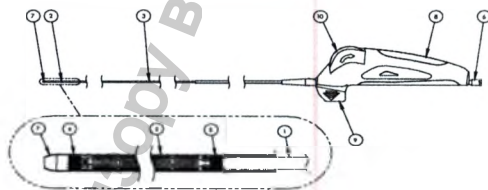

Figure 1: EverFlex Entrust™ Delivery System
The Entrust delivery system is shown in Figure 1. It has a triaxial shaft design comprised of an inner shaft (1), retractable outer sheath (2), and an isolation sheath (3) for ease of use during deployment. The ergonomic deployment handle (8) has a removable safety lock (9), deployment wheel (10), and luer hub (6).